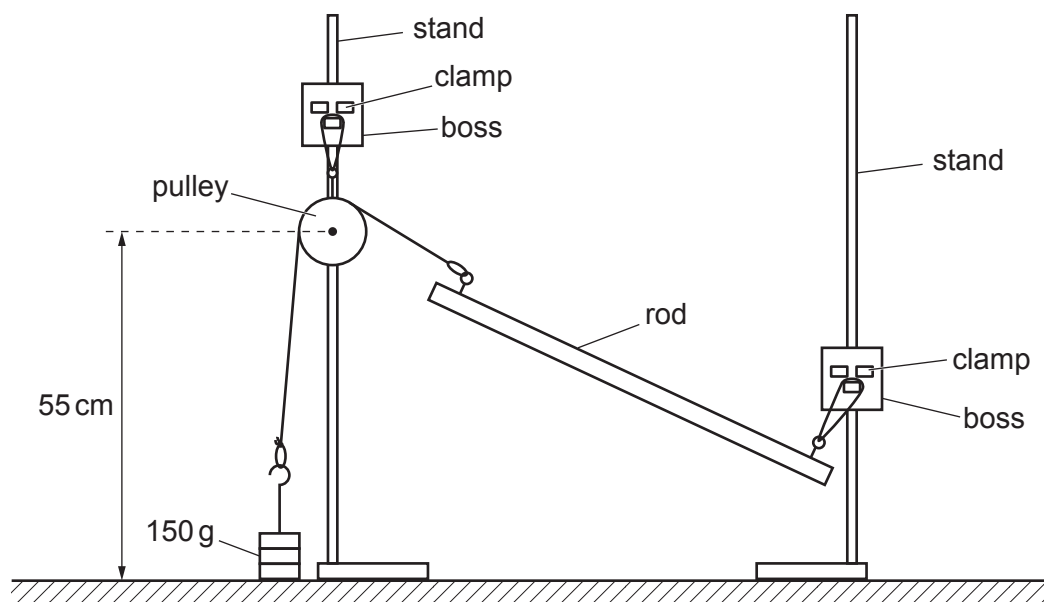

Fig. 1.3
- 3 Set up the apparatus as shown in Fig. 1.3.